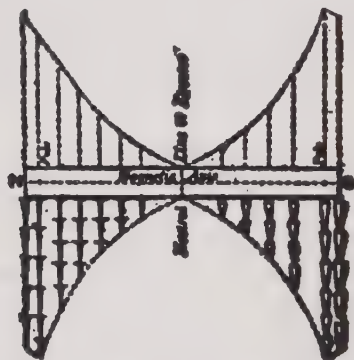

Fig. 78. Strength of Magnetism as roughly Tested by Lifting Power.
*Answer.* Fig. 78 shows approximately the magnetic force at different points. It shows that the pole of a magnet is not at the tip end, but a little way back.